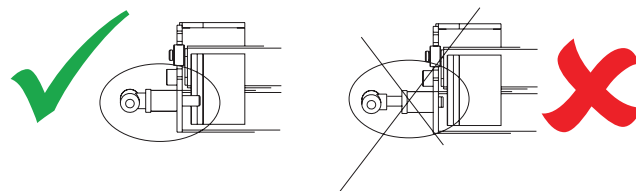

Figure 7-13
2. When the Swing-Away is fully closed, the T-handle will be fully retracted. *See Figure 7-13.*
Be sure to stay clear of the latching mechanism to avoid personal injury. *See Figure 7-13.*